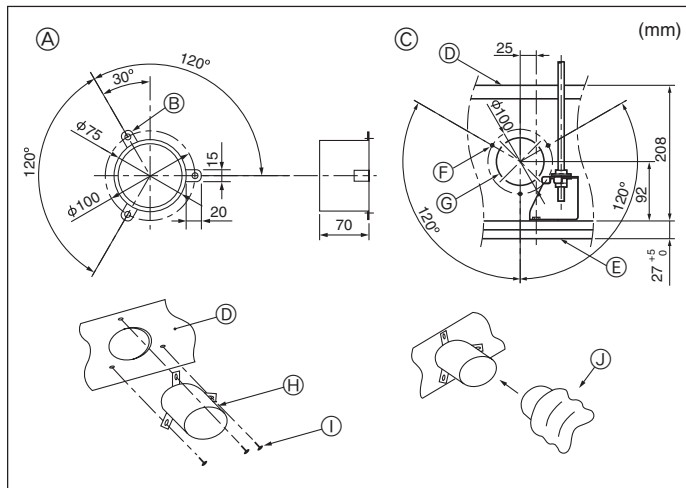

Fig. 2-3
- If setting the maintenance space for ③, be sure to leave a minimum of 700 mm.
2.3. Installation of duct (in case of fresh air intake) (Fig. 2-3)